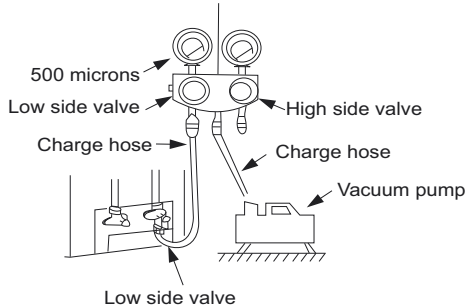

Fig. 24 — Manifold
- Fully open the low side of manifold gage (see Fig. 24).